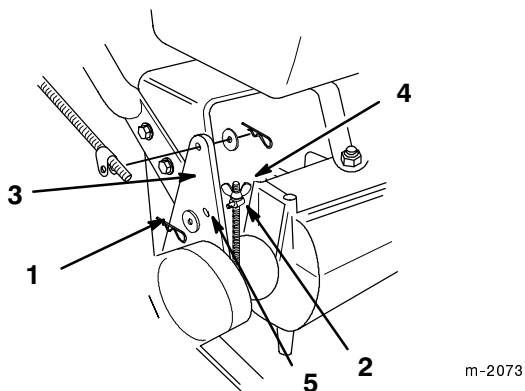

Figure 38
3. To adjust the brake remove the cotter pin and washer from the brake lever (Fig. 38).
4. Rotate the trunnion so it smoothly slides into brake lever hole "F" (Fig. 38). Tighten wing nut.
5. Secure trunnion to brake lever with washer and cotter pin (Fig. 38).